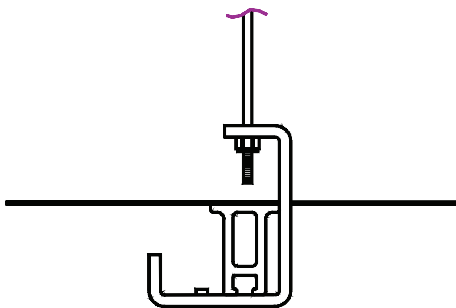

**Figure 8.** Assembly Weatherstripped for Crossmember
7. Mark the Conduit Carrier where it lays on the van rack crossmembers. Remove the Conduit Carrier from the van rack. Adhere Weatherstripping to the underside of the unit where it laid on the crossmembers (see Figure 8.).